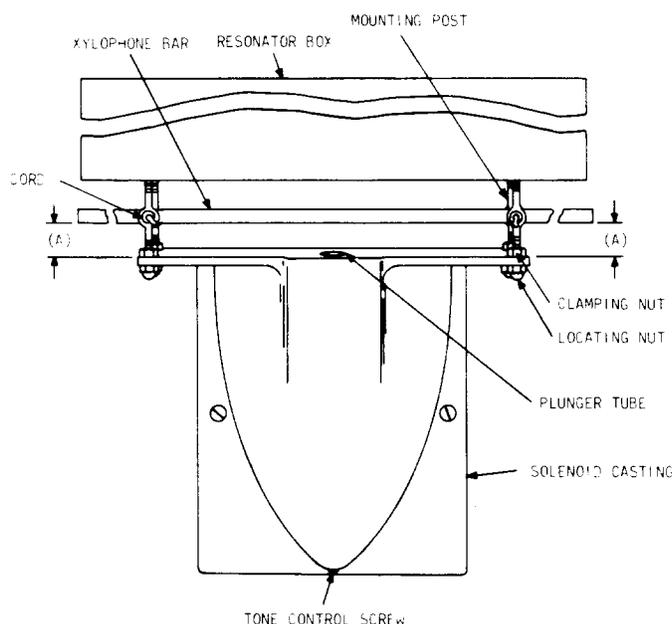
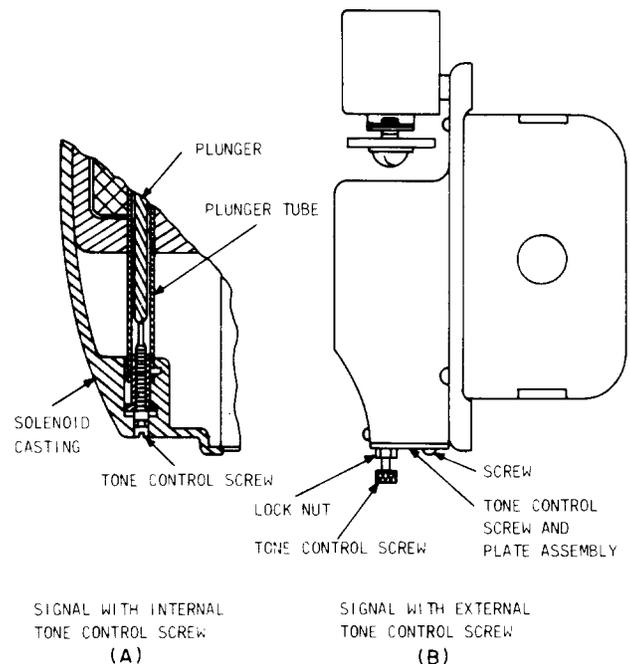

Fig. 3—Xylophone Bar-Type Signal
Fig. 4—Illustrating Tone Control Adjustment on Signals
Applicable only to signals with cords supporting the bar and with cords held by being knotted against the mounting posts and not by an extension spring. Figure 3(A)—The distance between the bottom surface of the bar and the top surface of the solenoid casting at each end shall be
- (1) If the plunger does not move freely in its plunger tube, proceed as follows:
(3) Clean the plunger and plunger tube with a KS-14666 cloth slightly moistened with petroleum spirits. Cleaning the plunger tube may be facilitated if the KS-14666 cloth is wrapped around a thin round piece of wood.
(4) After cleaning the plunger and plunger tube, insert the plunger in the plunger tube. Remount the tripping latch so that the stud on the end of the latch bears against the contact side of the operating spring. Remount the bearing pin and bearing pin locks with the long-nose pliers.
(5) **On signals** with the internal tone control screw [Fig. 4(A)], loosen the solenoid casting mounting screws with the 4 inch E screwdriver and remove the casting and resonator box. Remove the locating nuts (Fig. 3) with the No. 417A wrench and remove the solenoid casting. Remove the plunger by turning the solenoid up-side-down. Clean the plunger and tube as outlined in (3). Remount the parts in reverse order of disassembly.
(6) **On signals** with the external tone control screw [Fig. 4(B)], remove the screw holding the plate assembly with the 3 inch C screwdriver. Removal of the plate assembly will allow the plunger to drop out from the bottom of the plunger tube. Clean the plunger and tube as outlined in (3). Reassemble the parts in reverse order of disassembly.
(7) **On chimes**, remove the chime cover using the 3 inch C screwdriver. Remove the four screws holding the plunger solenoid with the 3 inch C screwdriver, and swing the solenoid clear of the resonator bar. Turn the chime upside-down and remove the plunger. Clean the plunger and plunger tube as outlined in (3). Remount the parts in reverse order of disassembly.
(2) The tone volume on the signals may be adjusted by the tone control screw. Turn the screw clockwise to decrease the volume and counterclockwise to increase the volume. On signals in accordance with Fig. 4(A), use the
3 inch C screwdriver to turn the screw. On signals in accordance with Fig. 4(B), loosen the locknut with the 418A wrench, hand turn the screw, and then retighten the locknut.